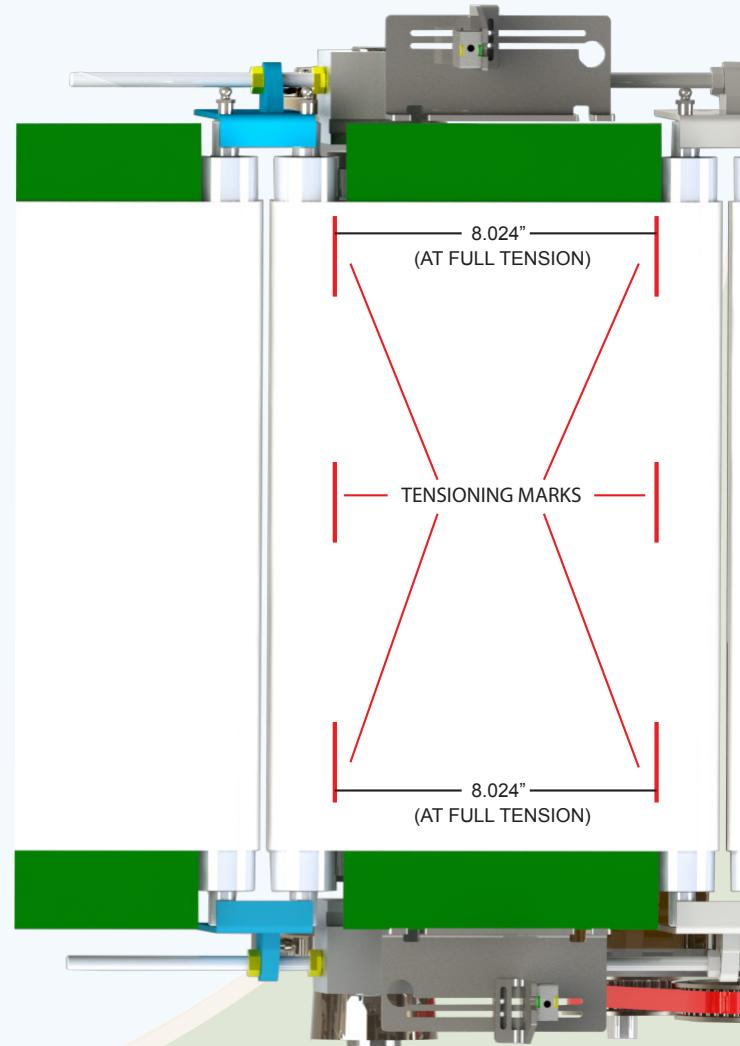

FIGURE 6.0
1. Tension belt evenly on both sides of the conveyor by hand, to remove slack. Keep belt centered across the width of the conveyor. (Figure 6.0)
2. Make (2) marks on top (flat) portion of the belt, EXACTLY 8.000" apart, at centerline and both edges of the Belt.
3. Gradually and Evenly Tension both sides (42) (43) until distance between all (3) sets of marks are between 8.024" and 8.040".